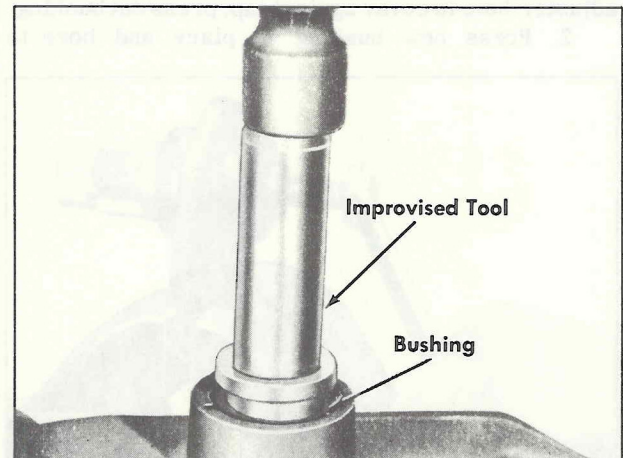

Figure 16—Installing Shaft Bushing in Housing
2. Drive bushing into housing in manner shown in figure 16. Improvised tool can be made if desired. Tool can also be made to install housing oil seal and retainer.